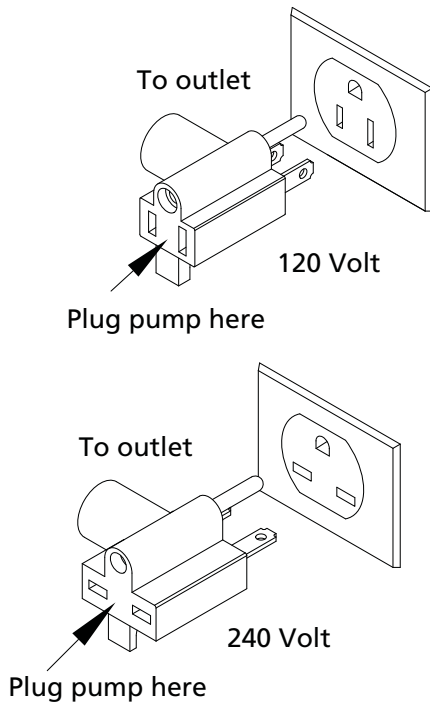

Figure 1
**⚠ WARNING** Risk of electrical shock. Can burn or kill. To reduce risk of electrical shock, pull plug before replacing switch. Be sure switch is connected only to a properly grounded grounding-type receptacle. Where a 2-prong wall receptacle is encountered, it must be replaced with a properly grounded 3-prong receptacle installed in accordance with codes and ordinances that apply (See Figure 1). If use with a pedestal sump pump or other non-submersible motor, be sure switch setting does not allow water to touch motor.